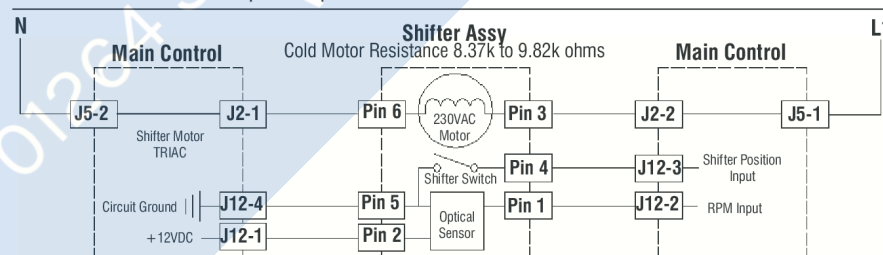

Figure 4 - Shifter Assembly Strip Circuit (Shifter Switch: Open = SPIN, Closed = AGITATE)
**NOTE:** Refer to Figure 4, “Shifter Assembly Strip Circuit” on page 14 for tests and measurements.